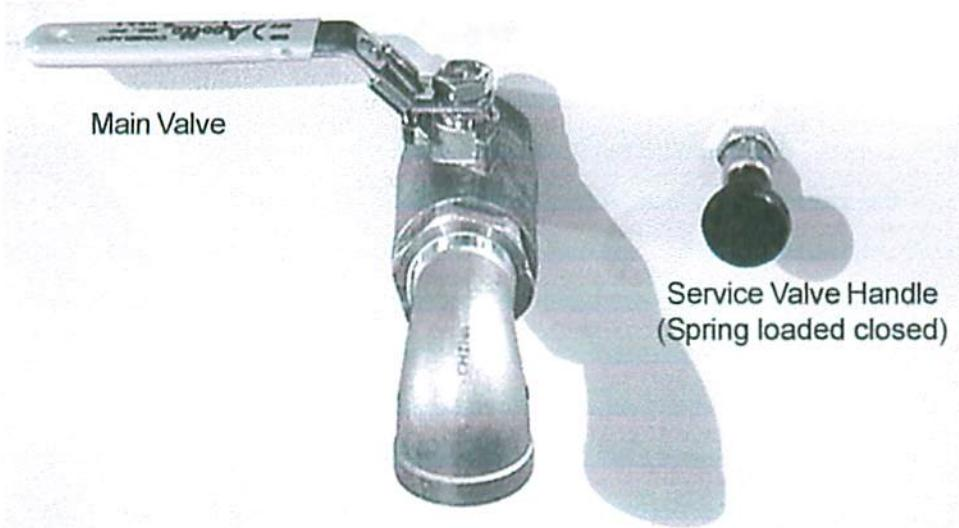

Fig 6.2
4. Drain moisture points before each use or as required. **See Fig.6.2, pg. 18**
- d. **Grounding Reels:** The unit is supplied with two (2) grounding reels. Always ground unit unless towing operations are in progress.
- h. Empty low point drains daily, or before each use. To use, attain approved container and place under spout, open Main valve, then pull Service valve handle. Release Service handle (spring loaded closed) after verifying moisture build-up has been removed. Close Main valve. **See Fig. 6.2, pg. 18**